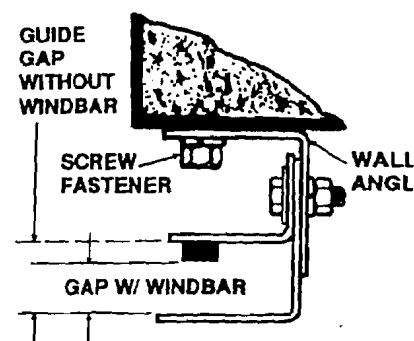

FIGURE 4
STEP 11 The Guide Gap **MUST** be set to the "Guide Gap" dimension shown on Page 1. See Figure 4.